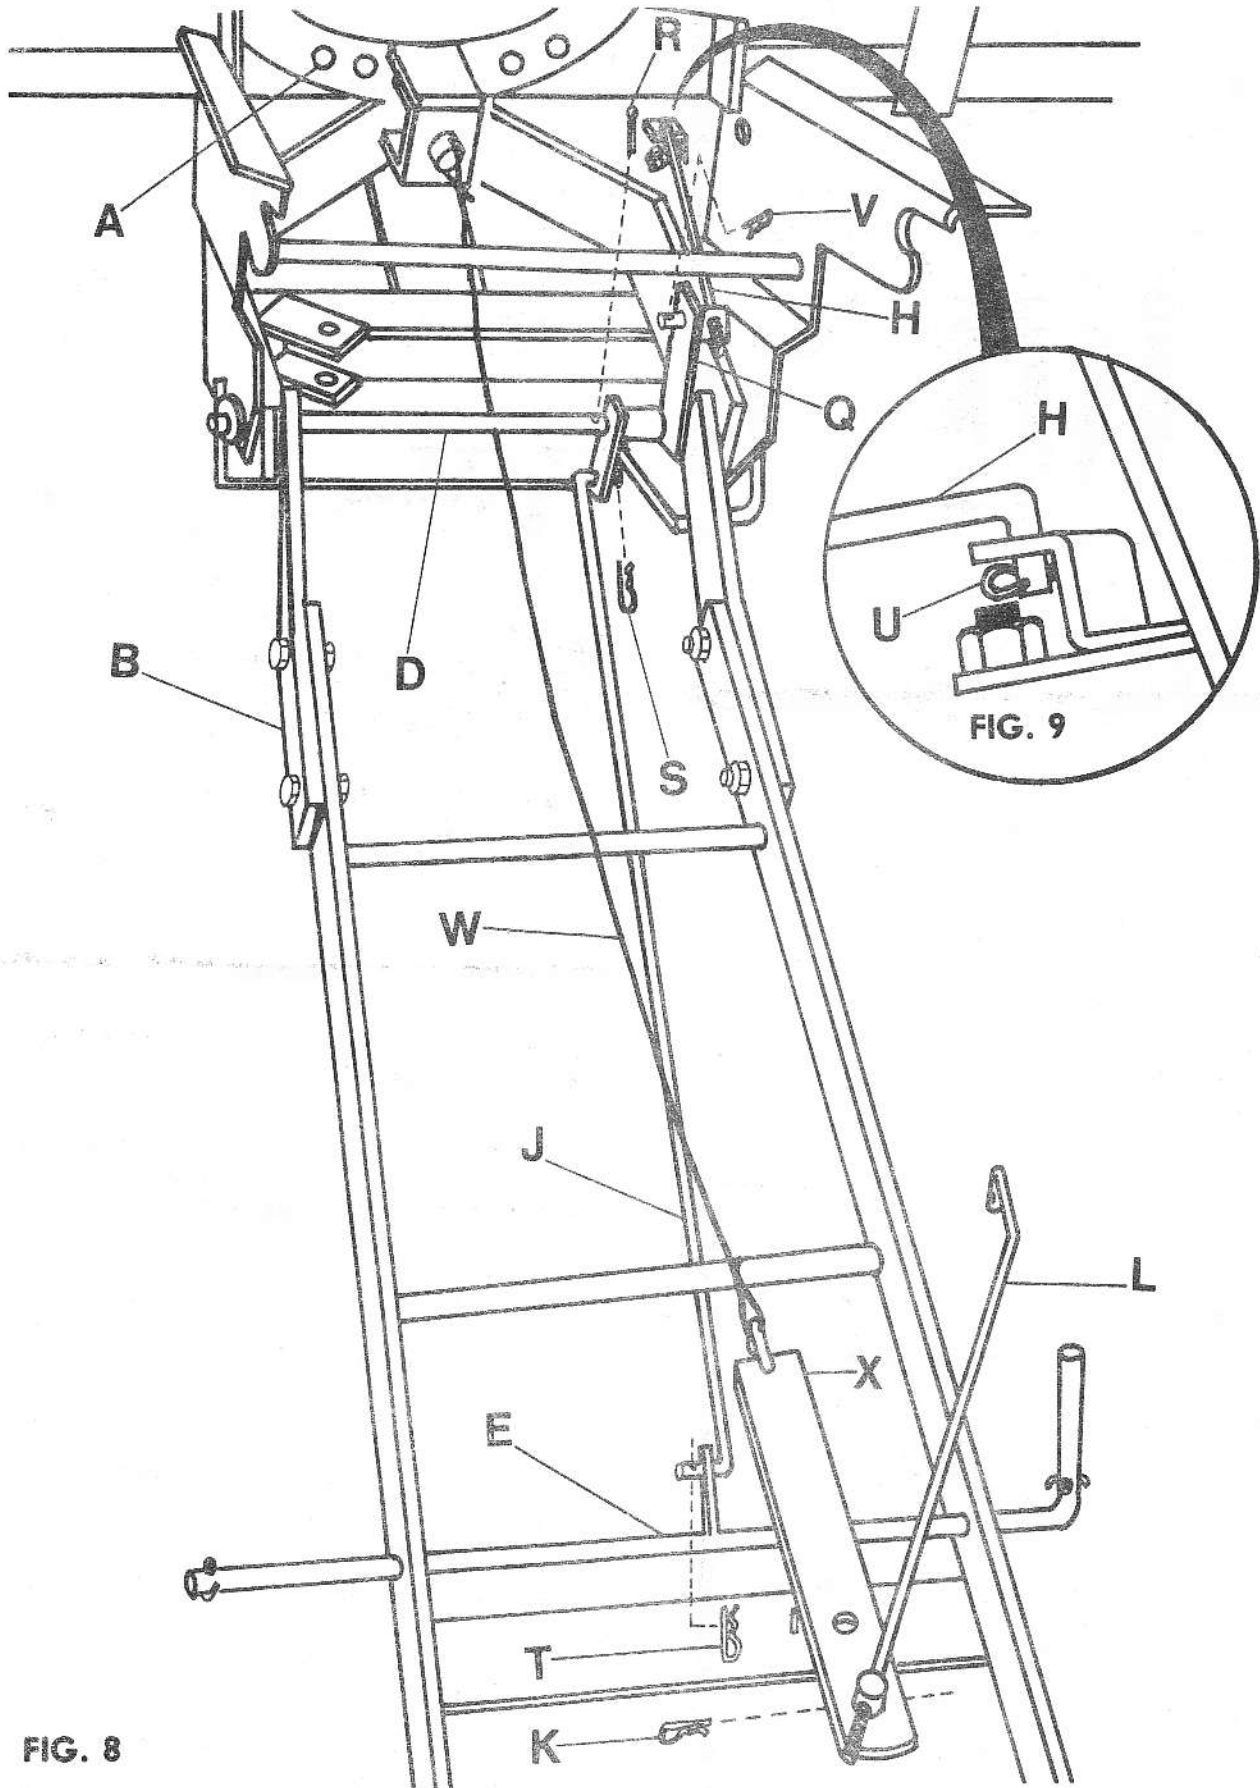

FIG. 8
1. Secure bell crank (Q) to lift bracket assembly (D) with cotter pin (R). (See Fig. 8)
2. Assemble rear pivot rod (J) under rear mounting frame assembly (B).
3. Assemble rear pivot rod (J) to bell crank (Q) and secure with hair cotter Pin (S).
4. Assemble rear pivot rod (J) to pivot control arm (E) and secure with hair cotter pin (T).
1. Assemble hooked end of front pivot rod (H) to 'A' frame assembly (A) and secure with hair cotter pin (U). (See Fig. 8 & 9)
2. Assemble threader end with anchor of front pivot rod (H) to bell crank (Q) and secure with hair cotter pin (V).
1. Place pin release cable (W) under lift bracket assembly (D) and over rear mounting frame (B). (See Fig. 8)
2. Assemble hook of pin release cable (W) into hole in end of pivot strap (X).
1. Assemble threaded end with anchor of pin release rod (L) to pivot strap (X). (See Fig. 8)
2. Secure with hair cotter pin (K).